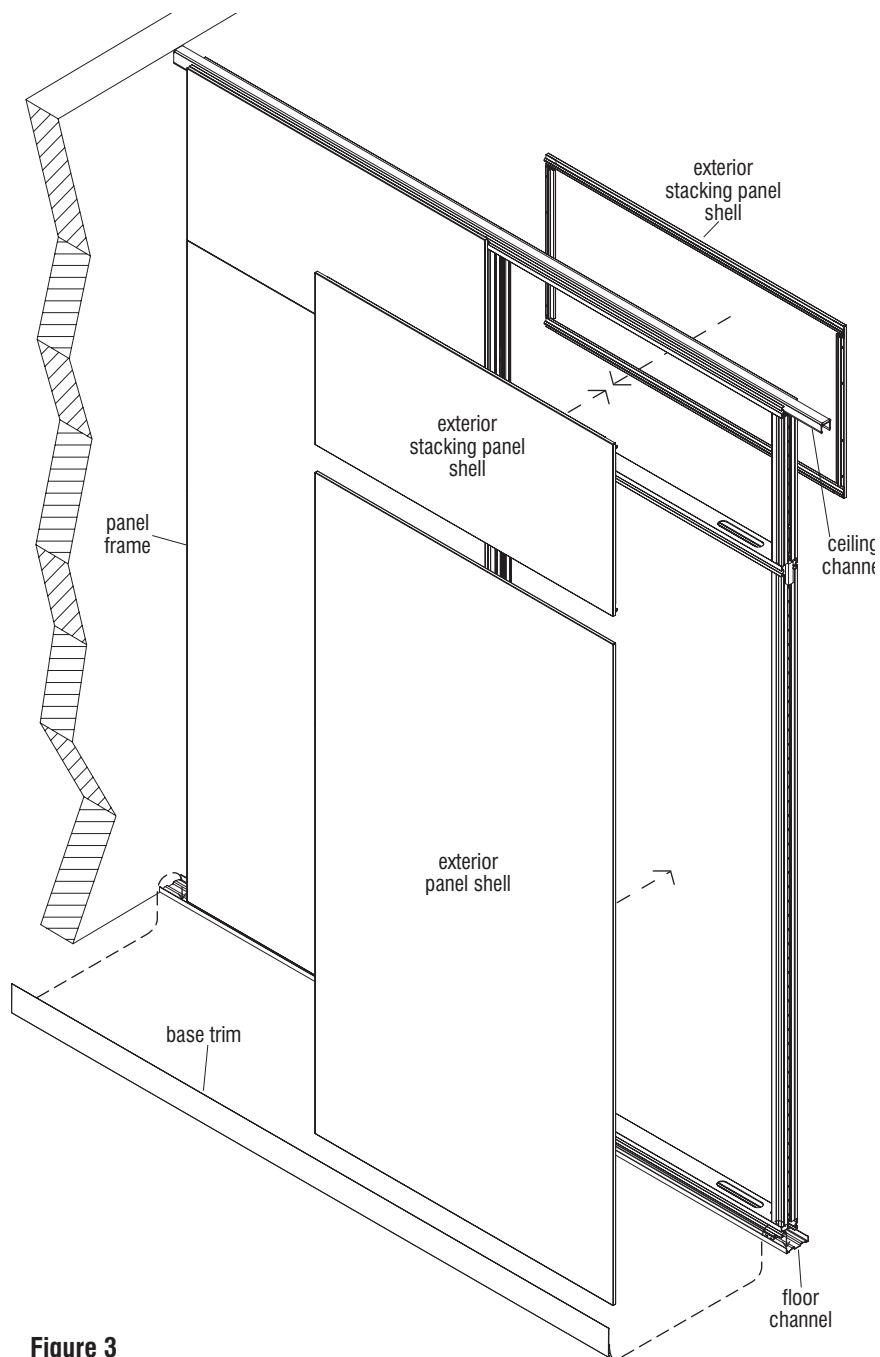

Figure 3
10. After assembled units are leveled, secured together and at their final installation location, re-install panel shells and base trim (Figure 3). Reference page 35 "Stacking Panel Section Overview" and see page 18 "Panel Shell/Trim Removal & Installation" as reference.